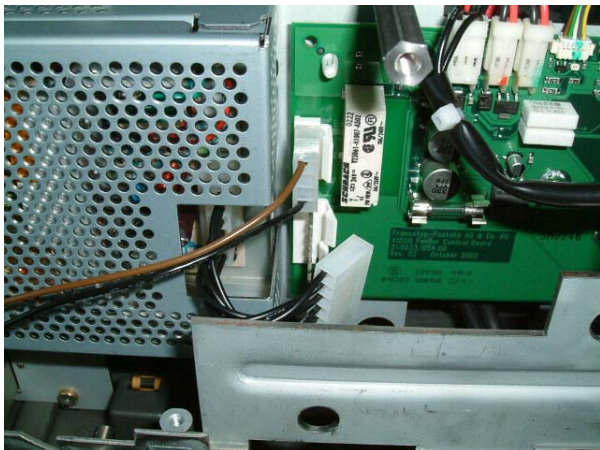

Fig.30
- Disconnect plug X11 and X10 from the main board. (Fig.30)